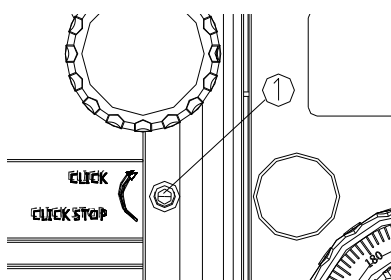

Fig. 19
1) To turn on the ticking sound magnification fixed position function, rotate the ticking sound magnification fixed position screw① in clockwise(as the arrowhead shown) to the end with an inner hexagon spanner.(See Fig. 19)
2) To turn off the ticking sound magnification fixed position function, rotate the ticking sound magnification fixed position screw① in counter-clockwise(in the opposite direction of arrowhead) for two circles with an inner hexagon spanner.(See Fig. 19)